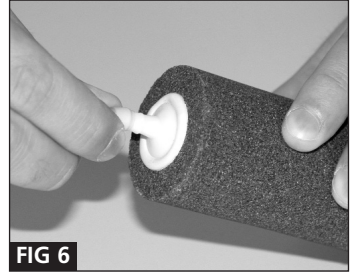

FIG 6
- Attach the other end of the air tube to the 100mm sintered air stone (See Fig 6).